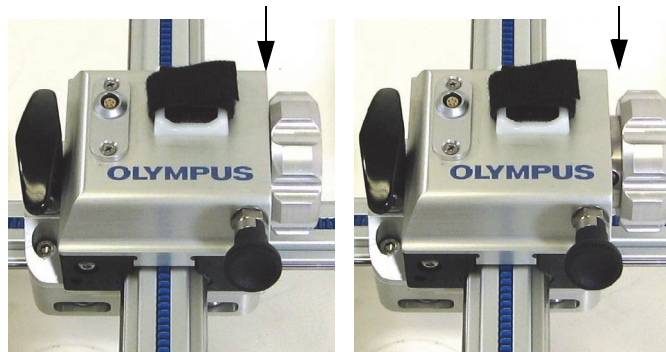

Figure 1-3 Increment-knob positions: incrementing (*left*) and free-running (*right*)
- Increment knobs, which can be set to either increment the axes in 4 mm steps, or to provide a free-running motion (see Figure 1-3 on page 25).